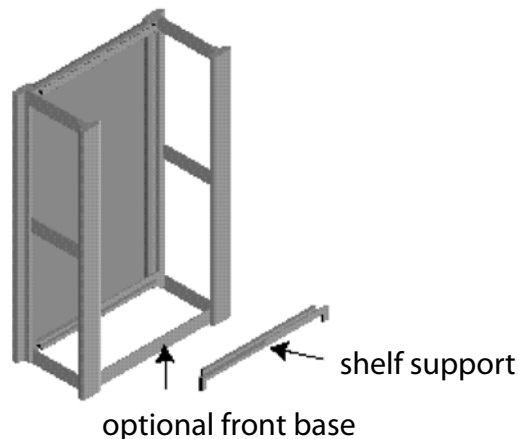

Figure 2
1. If optional front base is used, position it inside upright posts before permanently inserting bottom front shelf support. Figure 2.
2. Place bottom shelf support in front upright in second and third holes from the bottom with ears facing down. Front shelf support locks optional front base in place. Seat shelf supports by tapping at each end with a rubber mallet to drive rivets firmly into key-hole slots. Figure 2.